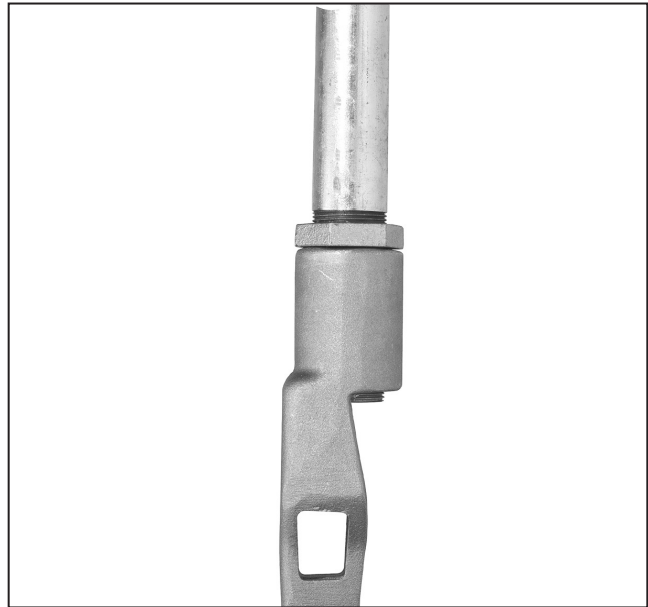

Figure 21. Installing lowest operating pipe section into operating handle assembly.
**STEP 18.** Install the lowest vertical operating-pipe section by threading one end of the pipe into the coupling on the operating handle assembly. Approximately ¼-inch (6-mm) of thread should extend through the coupling. Tighten the locknut. See Figure 21.